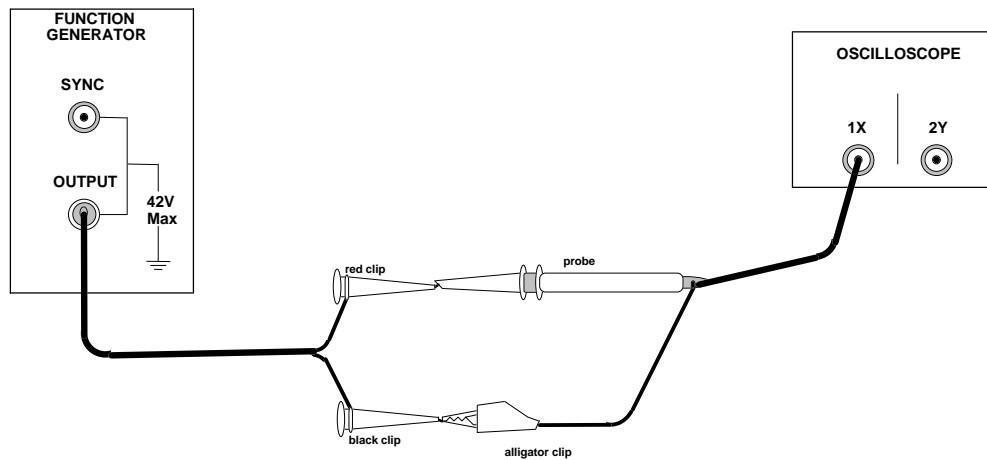

Figure 13 Connecting the function generator to the oscilloscope
- a. Connect the output of the function generator to channel 1 of the oscilloscope as shown in Figure 13.